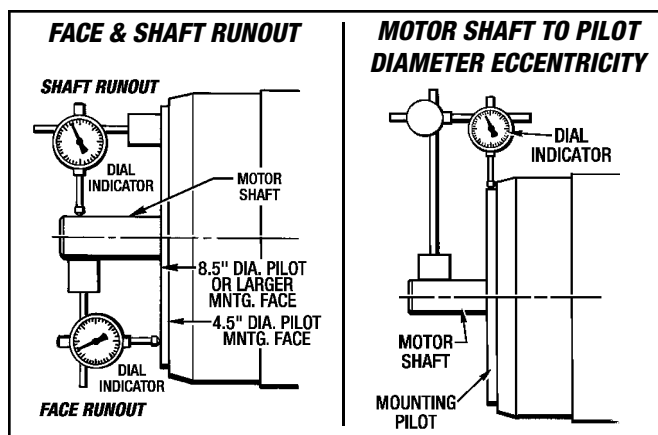

Figure 3.1 - Verifying Motor Specifications
The Motor Manufacturer's Specifications must be verified first to ensure the Motor Brake Oil Seal Reliability. (1) **Motor Shaft Runout**, (2) **Mounting Face Runout** and (3) **Motor Shaft to Pilot Diameter Eccentricity** need to be checked with a Dial Indicator as shown in Figure 3.1.